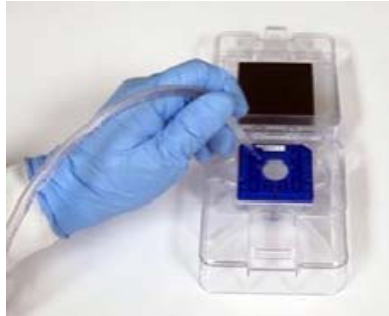

Figure 2. Using a vacuum to aspirate the chip wells is more effective than using a pipette.
- 1 Use a pipette tip attached to a vacuum line to thoroughly aspirate all fluid from the chip wells (see Figure 2). For more details on how to set up a vacuum line see page 35.